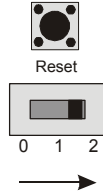

Figure 4-7
- √ Supply power to the servo header by adjusting the 3-position switch as shown in Figure 4-7. Your servo may move a bit when you connect the power.